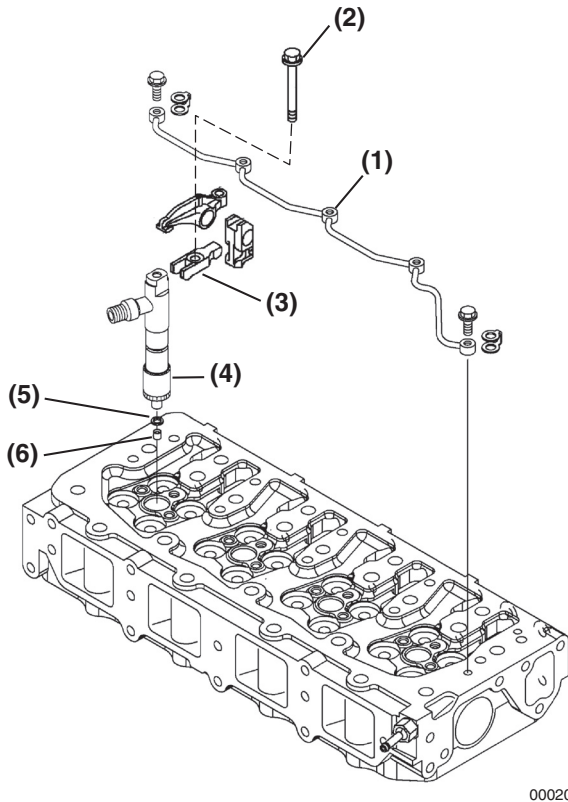

Figure 7-56
1. Reinsert a new nozzle seat (**Figure 7-56, (6)**) and nozzle protector (**Figure 7-56, (5)**) in the cylinder head for each injector.
3. Reinsert each fuel injector (**Figure 7-56, (4)**) into the cylinder head.
4. Reinstall the fuel injector retainers (**Figure 7-56, (3)**) and torque the retaining bolts (**Figure 7-56, (2)**) to specification.